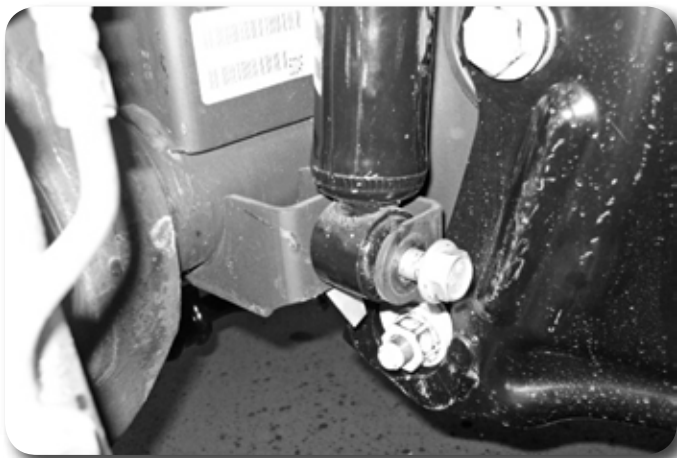

Figure 5
7. Disconnect the front shocks from the axle, keep the lower mounting bolt and nut tab. (Fig 5)